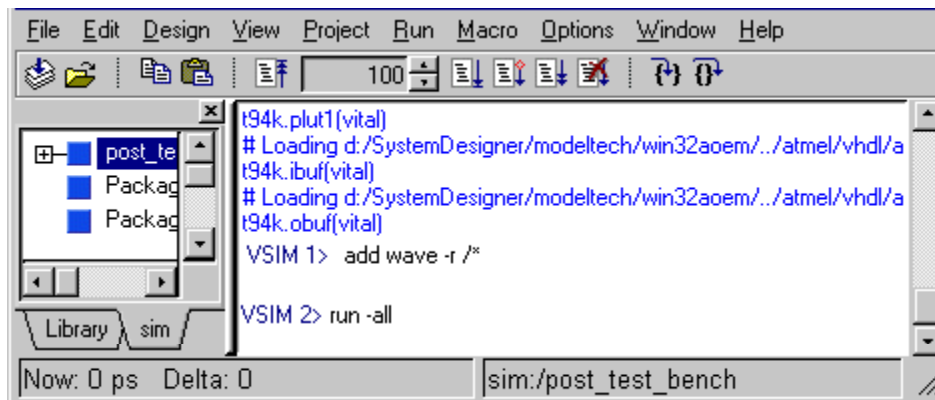

Figure 25 ModelSim
9. Select **typical** and press **OK**, ModelSim opens, see **Figure 25**.